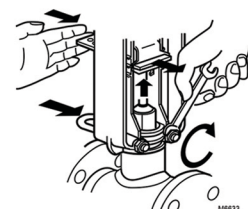

Fig. 3. Securing actuator to valve.
3. Push aside the stem button retaining clip and hold. See Fig. 3.